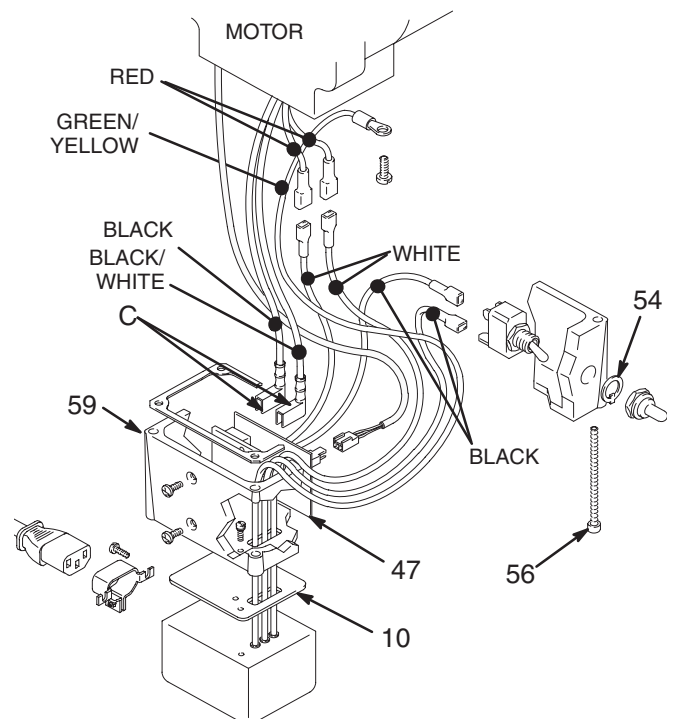

Fig. 14
3. Remove the junction box screws (56). Lower the junction box. Disconnect the two leads (C) from the motor to the board (47). See Fig. 14.